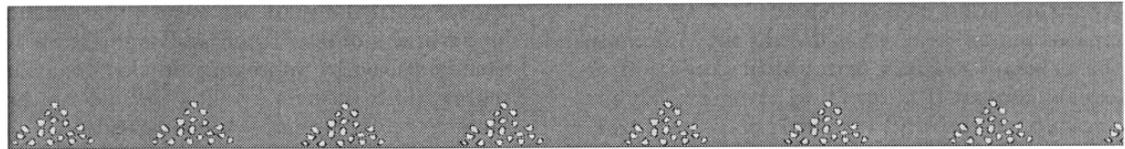

Figure 4. Truck End Segregation/One Side.
4. **Truck End Segregation/One Side:** This type of segregation is shown in Figure 4. It is a special case of truck end segregation, but is most commonly caused by improper loading of the batcher on the hot storage bin.